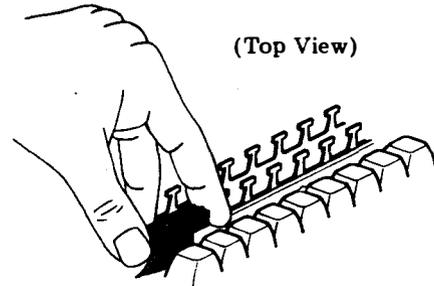

Fig. 22—Cable Connector Removal
- (g) Exert upward force until cable connector releases (Fig. 22).